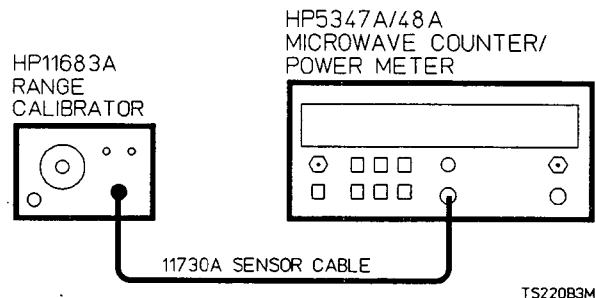

Figure 5-7. 220 Hz Frequency Adjustment Setup
1. Connect the Range Calibrator output to the power INPUT connector of the HP 5347A/48A as shown in Figure 5-7.